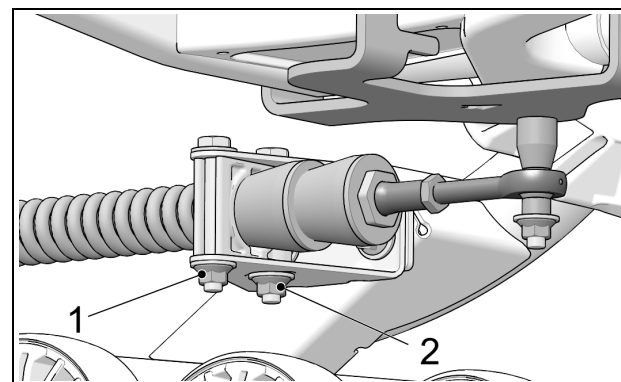

Figure 14
- Re-tighten anti-rotation bracket nuts (1) and (2) to 37 ft. lbs. (50 Nm) of torque. See Figure 14.